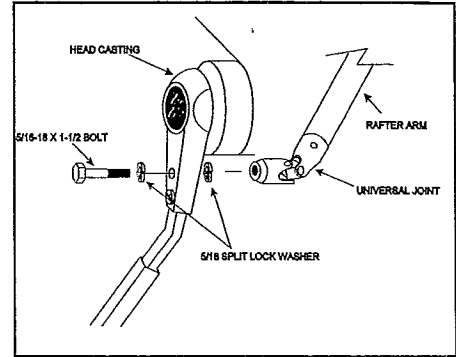

Fig. A4
- 2) Disconnect rafter arms (**Fig. A4**): Unbolt from head castings using ½" hex wrench. Release set screw in rafter base on coach (3/32 hex key) and slide rafter arms off and store.